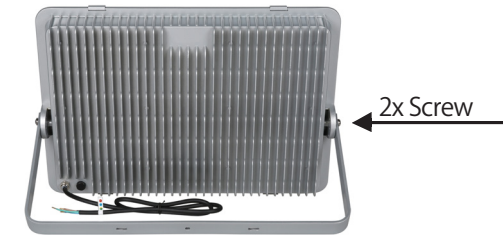
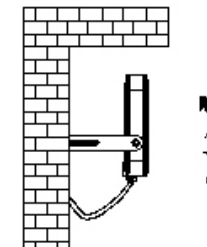

fig.1
fig. 3
1. Screw out both screws (fig.1) and remove washers and bracket.
4. Fasten the LED floodlight with the screws (fig.1), washers and tooth washers on the bracket. Align the LED spotlight (fig.3) and tighten the screws (fig.1).